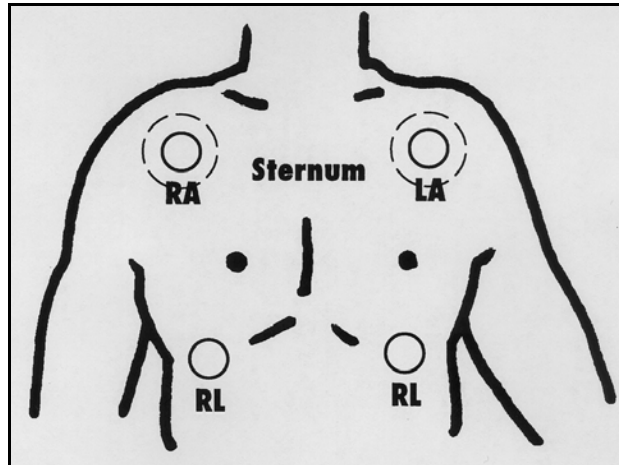

Figure 3-2. Site for placement of electrodes (1)
- The following sites will be used for electrode placement. See Figure 3-2.
- If the individual has a large amount of body hair, the electrodes can be moved slightly to give better contact with the skin. To avoid unintended injury or discomfort to the SP, this site will not be shaved. Move the electrodes approximately 2 inches laterally. See the outer limit circles on RA and LA in Figure 3-2.